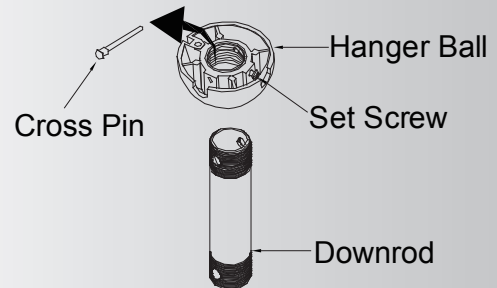

Fig. 6
**Step 2.** Remove the hanger ball from downrod assembly by loosening set screws, removing the cross pin, and twisting ball out of the rod. ( Fig. 6)